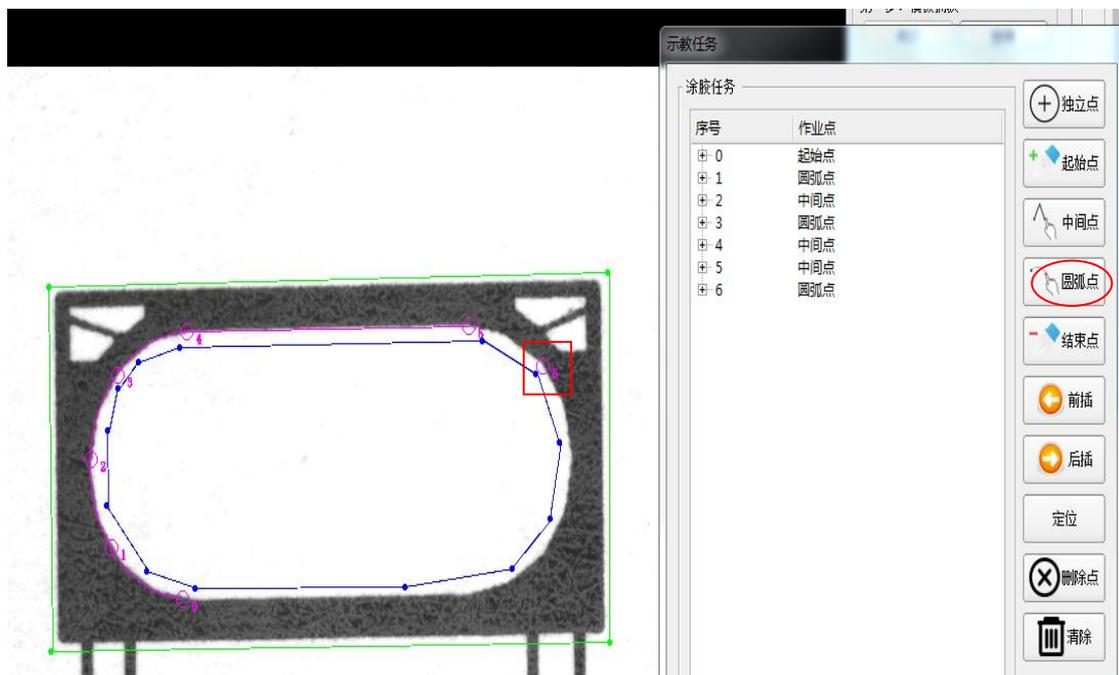

Figure 35 Arc point adding
7) Add the arc point on the position of 45 degree after the last middle point, as shown in figure 35;